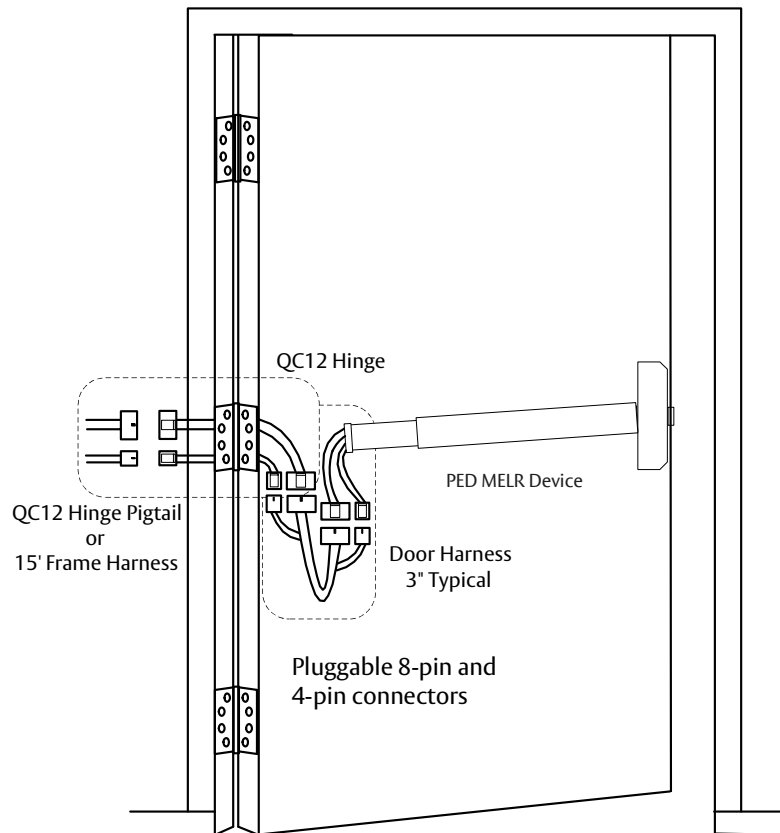

Figure 2 Power Mode Installation
- b. Feed the 3" harness through the 1" hole in the door and secure the rail to the door using the mounting bracket and two supplied screws. (See Figure 2 on page 10 Power Mode Installation.)